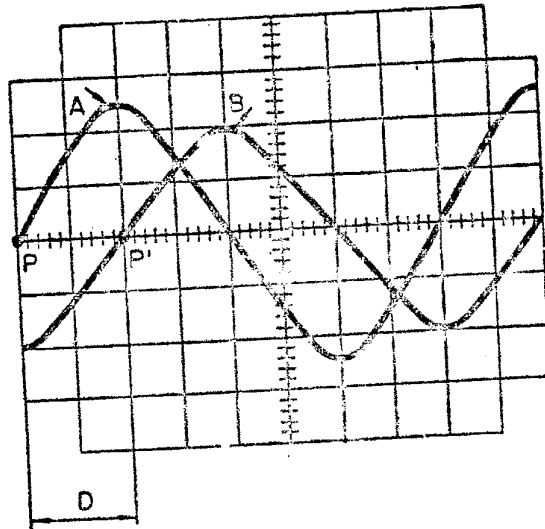

Fig.3.4 Phase Measurement of Two Signals
Set the trigger source select switch to EXT, connect a lead signal A to the Y_1 input socket and external trigger input socket respectively. Adjust the LEVEL control to obtain a stable display. And then adjust the t/div switch and X position control to situate the waveform shown as Fig.3.4. Its one cycle of the signal is T div. Leaving the settings of the controls unchanged (trigger source select switch, t/div, VERNIER, LEVEL, X POSITION). Connect lagging signal B instead of leading signal A to the Y_1 input socket and read the distance between P and P' (D).
Because the phase between two vertical channels of this instrument is very small, you can measure the phase of the signal by using "ALT" mode ("CHOP" mode can be used when the frequency of the signal is lower). The first several steps are just same as method A. You can connect lagging signal B to the Y_2 input socket instead of connecting it to Y_1 input socket. Also, the phase is $\phi = \frac{D}{T} \times 360^\circ$ (see Fig.3.4).